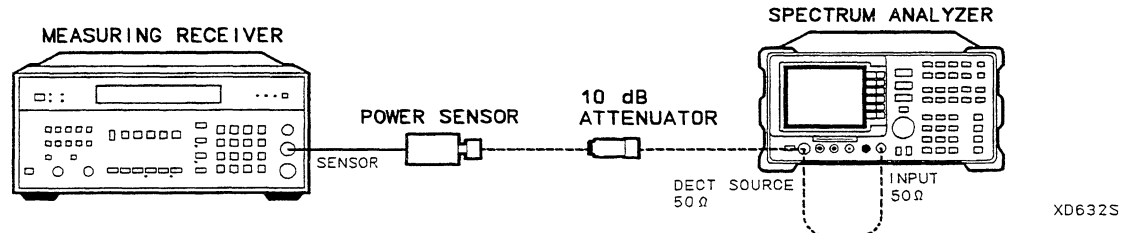

Figure 9-1. Absolute Amplitude Accuracy Test Setup
1. Connect the 23 cm BNC cable between the DECT SOURCE 50 Ω and INPUT 50 Ω connectors on the spectrum analyzer, using the N(m) to BNC(f) adapters. Refer to Figure 9-1.
8. Disconnect the BNC cable and the adapter from the DECT SOURCE 50 Ω output and connect the power sensor to the DECT SOURCE 50 Ω output. Refer to Figure 9-1. (The 10 dB attenuator pad should not be connected at this stage.)
9. On the spectrum analyzer, press **SRC PWR ON OFF (ON)**, **-40 (dBm)**, **(SGL SWP)**.
12. On the spectrum analyzer, press **SRC PWR ON OFF (ON)**, **-21 (dBm)**. Allow the reading on the measuring receiver to settle.
23. Connect the 23 cm BNC cable between the DECT SOURCE 50 Ω and INPUT 50 Ω connectors on the spectrum analyzer, using the N(m) to BNC(f) adapters. Refer to Figure 9-1.
27. Disconnect the BNC cable and adapter from the DECT SOURCE 50 Ω output and connect the power sensor to the DECT SOURCE 50 Ω output. Refer to Figure 9-1.
28. On the spectrum analyzer, press **SRC POWER ON OFF (ON)**, -40 **[dBm]**, **[SGL SWP]**.